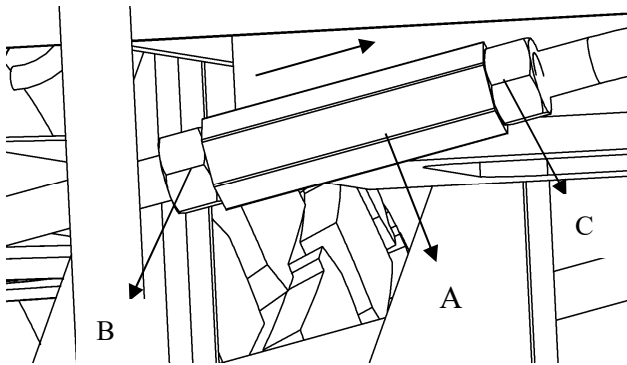

Fig. 22
- If the right wheel rotates clockwise, sightly loosen the nuts(B and C),then turn the neutral buckle (A of Fig. 22) counterclockwise(from the direction of arrow) until the wheel does not rotate. At last,tighten the nuts(B and C) securely.